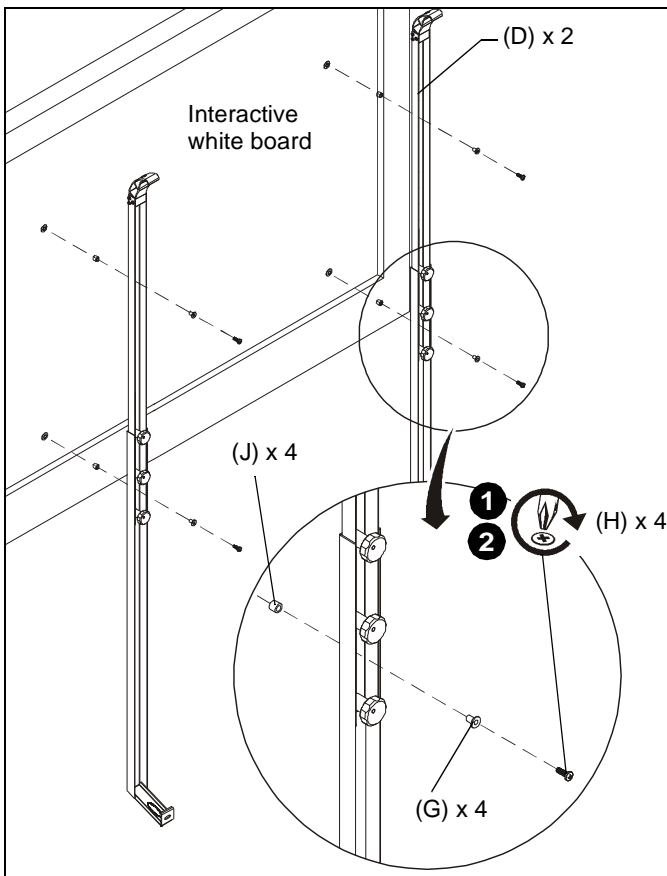

Figure 6
1. Attach upright assembly (D) to back of white board using two 1/4-20 x 1" Phillips pan head screws (H), two isolation washers (G) and two 17/40" spacers (J). (See Figure 6)
2. Repeat for second upright assembly. (See Figure 6)